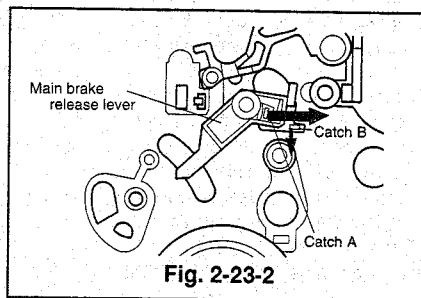

Fig. 2-23-2
- ① Remove the cassette housing. (Refer to Para. 2-1 for the removal method.)
- ② Remove the sub brake(SP), and the sub spring(SP). (Refer to Para. 2-14 for the removal method.)
- ③ Remove the sub off lever, the sub brake(TU), and the sub spring(SP). (Refer to Para. 2-16 for the removal method.)
- ④ Remove the main brake(TU) and the main brake spring J(TU). (Refer to Para. 2-17 for the removal method.)
- ⑤ Shift catch A of the main brake release lever, and push catch B at the same time, in the direction shown by each arrow. Unfasten catch B from the main plate to remove the main brake release lever. (Refer to Fig. 2-23-2.)